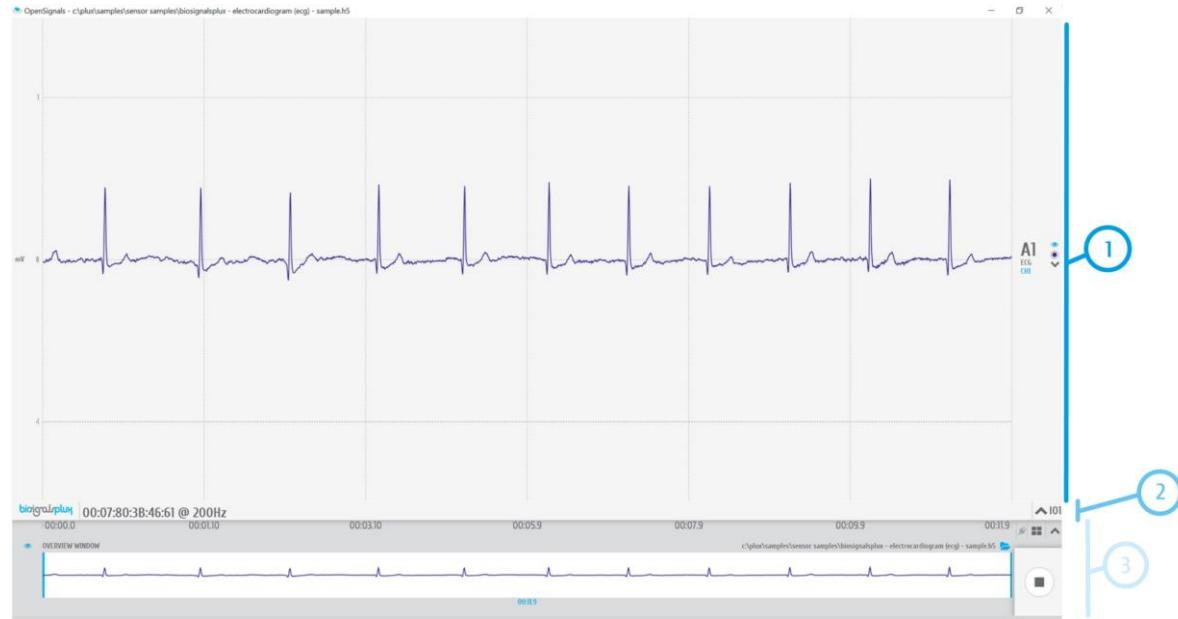

Figure 88: Sections of the visualization mode.
- Signal visualization (1 in Figure 88; see section 3.2.2 Signal Visualization)
- Information bar (2 in Figure 88; see section 3.2.3)
- Control bar (3 in Figure 88; see section 3.2.4 *Control Bar*)